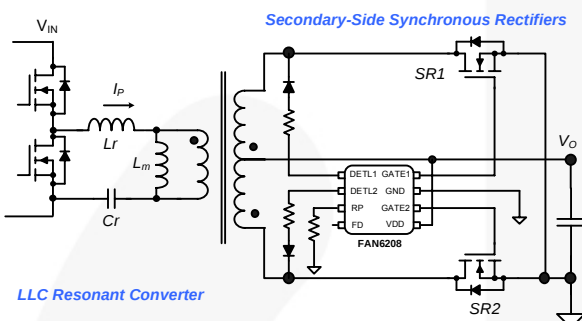
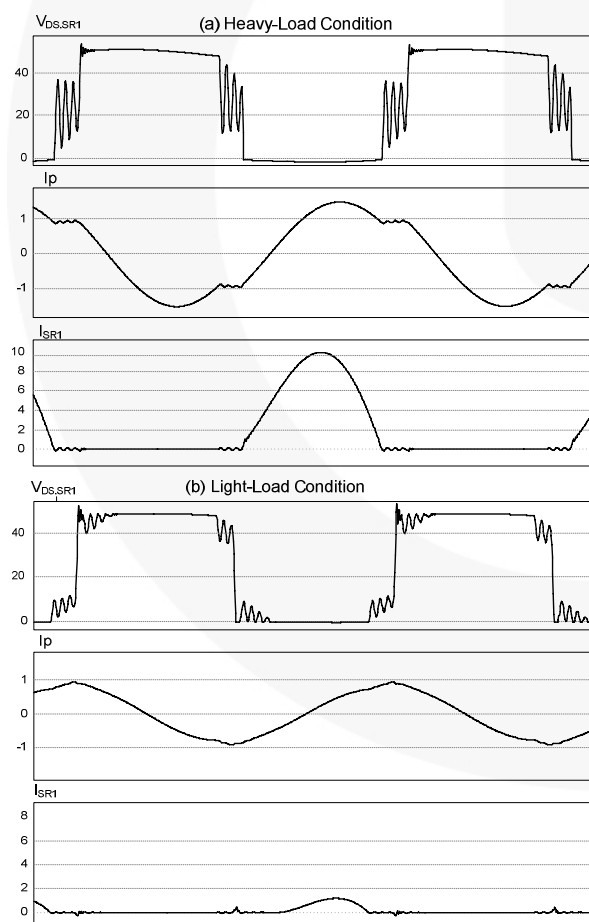
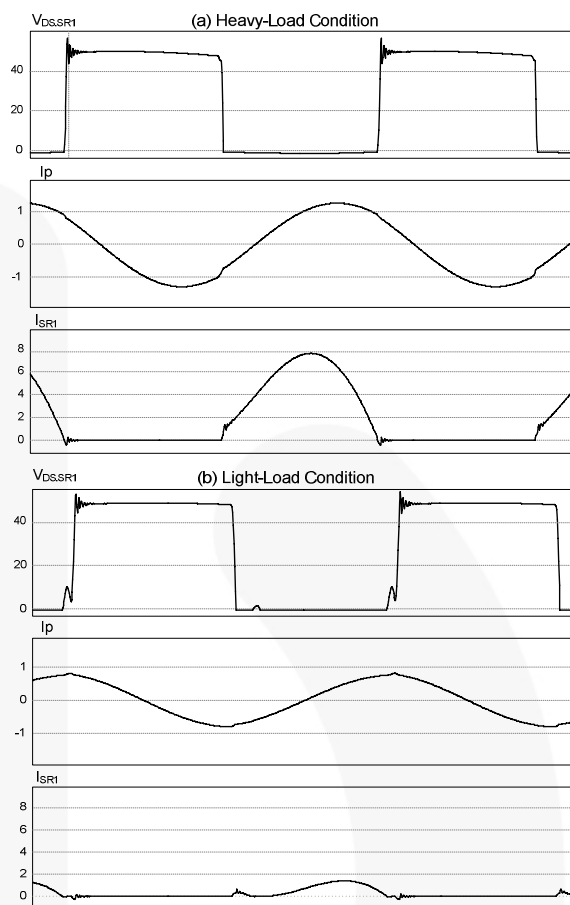
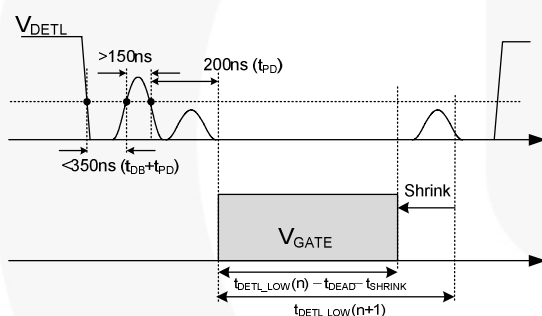

Figure 7. Simplified Schematic of LLC Converter
Figure 8. Key Waveforms of LLC Resonant Converter for Below Resonance Operation
Figure 9. Key Waveforms of LLC Resonant Converter for Above Resonance Operation
Figure 15. Gate Shrink by DETL Voltage Ringing Around Zero
FAN6208 is a secondary-side synchronous rectifier controller for LLC or LC resonant converters that drive two synchronous rectifier MOSFETs. Figure 7 is the simplified circuit diagram of an LLC converter. The FAN6208 determines SR MOSFET turn-on/off timing by detecting the drain-to-source voltage of each SR MOSFET. The key waveforms for LLC resonant converter for below resonance and above resonance are shown in Figure 8 and Figure 9, respectively.
- (c) When the DETL voltage has ringing around zero. As depicted in Figure 8, the drain voltage of SR has ringing around zero at light-load condition after the switching transition of the primary-side switches. When DETL voltage rises above 2V within 350ns after DETL voltage drops to zero and stays above 2V longer than 150ns, the gate is shrunk by 1.2μs ($t_{SHRINK-RNG}$), as shown in Figure 15.